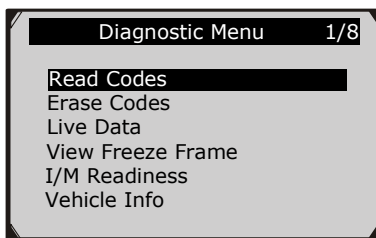

Figure 4.3
- 7) View a summary of system status (MIL status, DTC counts, Monitor status) on screen. (Figure 4.1) Wait a few seconds or press any key for **Diagnostic Menu** (Figure 4.3) to come up.
- 1) Use the **SCROLL** button to select **Erase Codes** from **Diagnostics Menu** and press the **ENTER/Exit** button. (Figure 4.3)
- 1) To view live data, use the **SCROLL** button to select **Live Data** from **Diagnostic Menu** and press the **ENTER/Exit** button. (Figure 4.3)
- 1) To view freeze frame data, use the **SCROLL** button to select **View Freeze Frame** from **Diagnostic Menu** and press the **ENTER/Exit** button. (Figure 4.3)